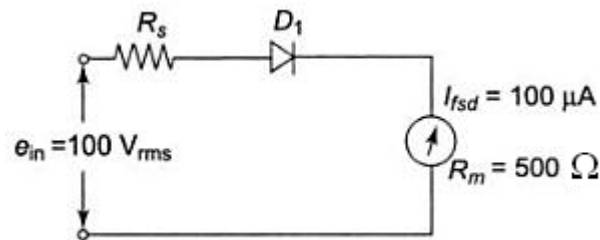

Fig.2
- b. Calculate the multiplier resistor required for a 100Vrms range on the voltmeter shown in given fig.2 (8)